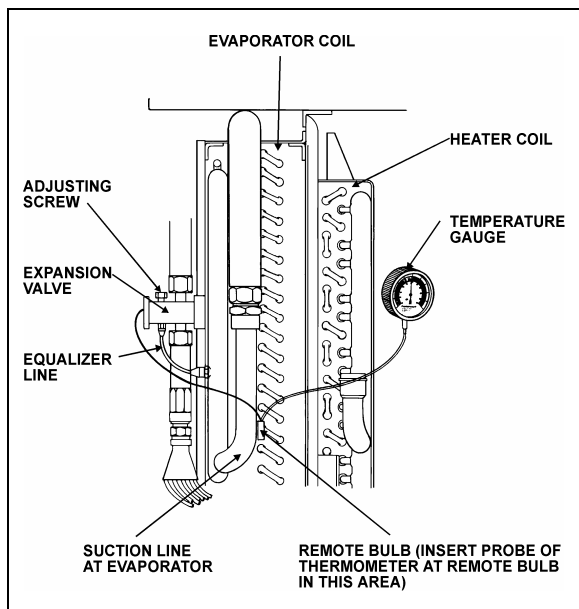

FIGURE 38: SUPERHEAT ADJUST. INSTALLATION 22046
The easiest method of adjusting the superheat is to unscrew completely the main evaporator expansion valve adjusting screw, and screw in 13 turns clockwise for 134A (Figure 38). If this method does not provide an accurate superheat, the following procedure should be followed:
3. Install a remote reading thermometer to the evaporator outlet line near the existing remote bulb (Figure 38).